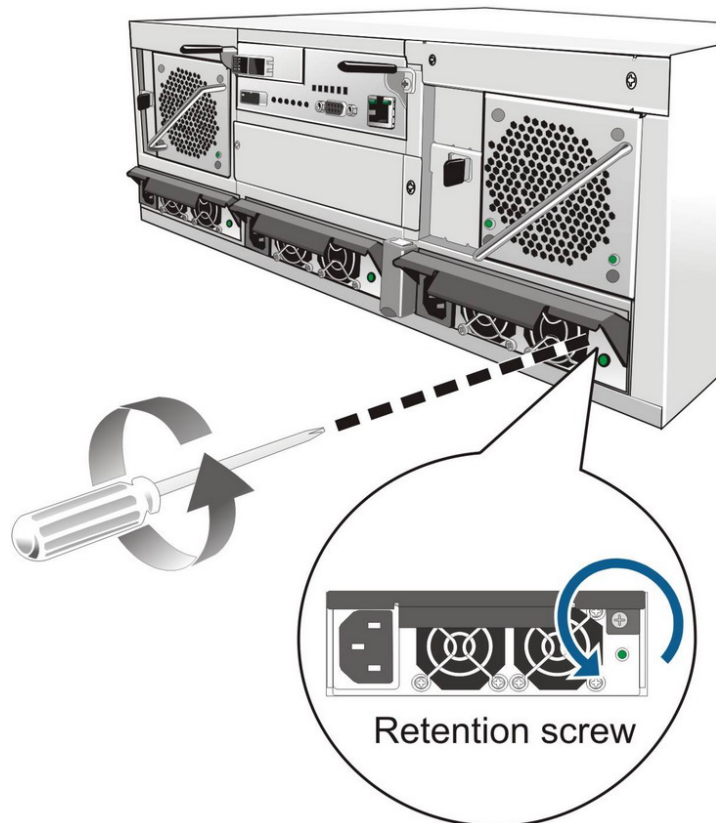

Figure 5-6: Removing the PSU Module
Step 4. **Remove the PSU module** by pushing the extraction handle downwards. The extraction handle should gracefully disconnect the PSU from the backplane connectors. Once dislodged, gently pull the PSU module out of the system. If the system is mounted in a rackmount rack, use another hand to support its weight while removing the module. (See **Figure 5-6**)